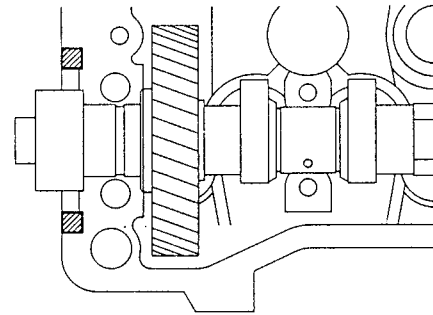

Fig. 2
3. Apply seal packing to the cylinder head as shown in Fig. 2 below.